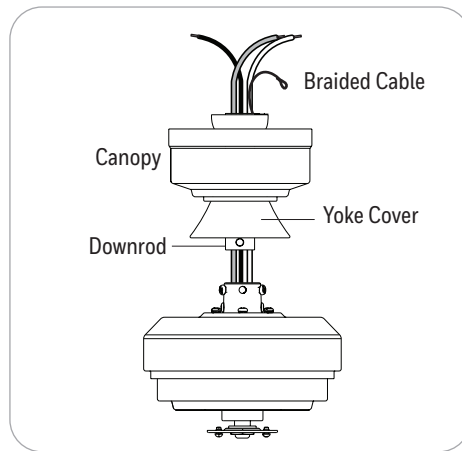

Figure 3.2
2. Insert the downrod through the canopy and yoke cover. Feed the wires and braided cable from the fan through the downrod. (Figure 3.2).